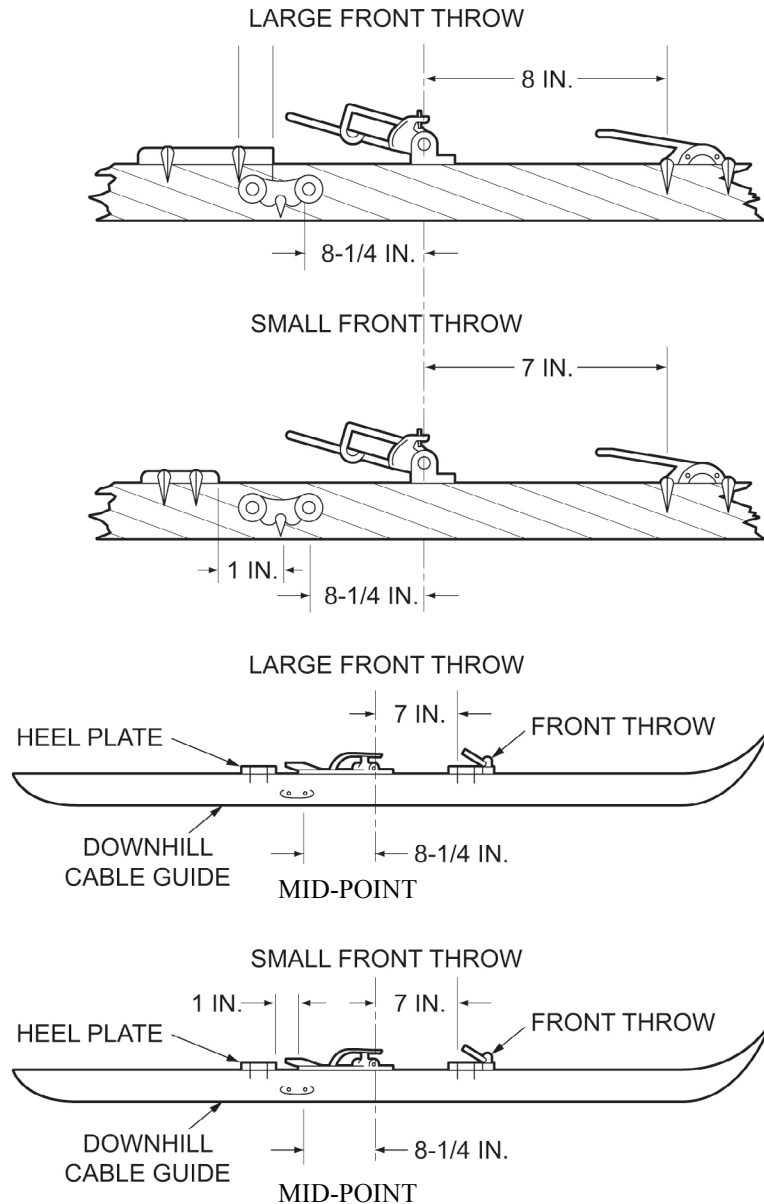

Figure 2. Binding Parts Location.
5. Use the toe piece, front throw, and cable guides (side hitches) as templates in marking holes to be drilled. Locate the binding parts as shown in Figure 2.